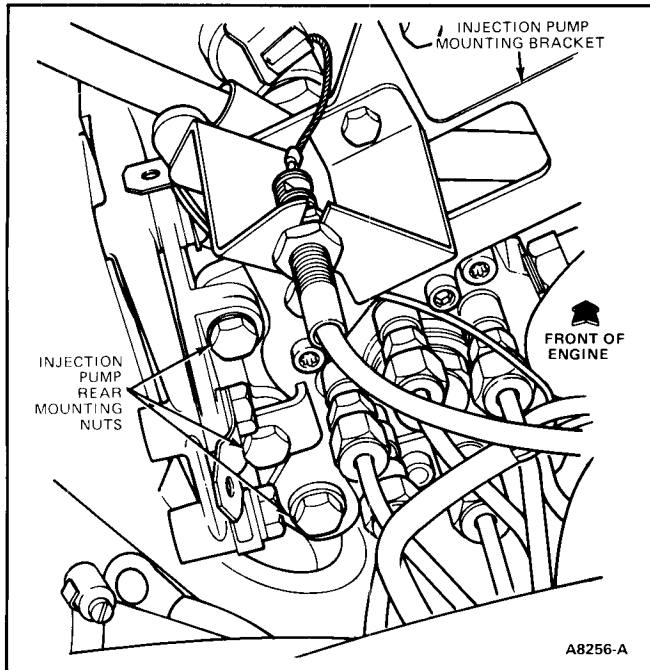

FIG. 52 Injection Pump—Rear Mounting Nuts
23. Remove three nuts attaching injection pump to bracket (Fig. 52).
1. Install injection pump in position. Line up mark on front cover with the mark on the injection pump mounting boss. Install attaching nuts and bolts, (Figs. 52 and 53), and tighten to 20-24 N·m (14-17 lb-ft).